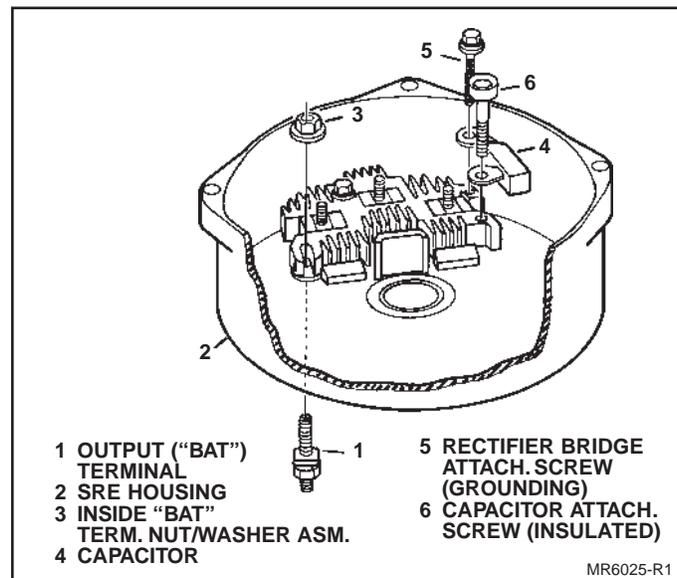

Figure 26. Installing BAT Terminal and Capacitor
6. Output (BAT) terminal to SRE housing, being sure to seat square insulator flange in hole, then inside output terminal nut/washer assembly onto terminal stud (Fig. 26). Finger tighten.
7. Capacitor to holes in end of rectifier bridge assembly (Fig 26). Install rectifier bridge attaching screw/washer assembly through capacitor connector, grounded heat sink, and into SRE housing (finger tighten).